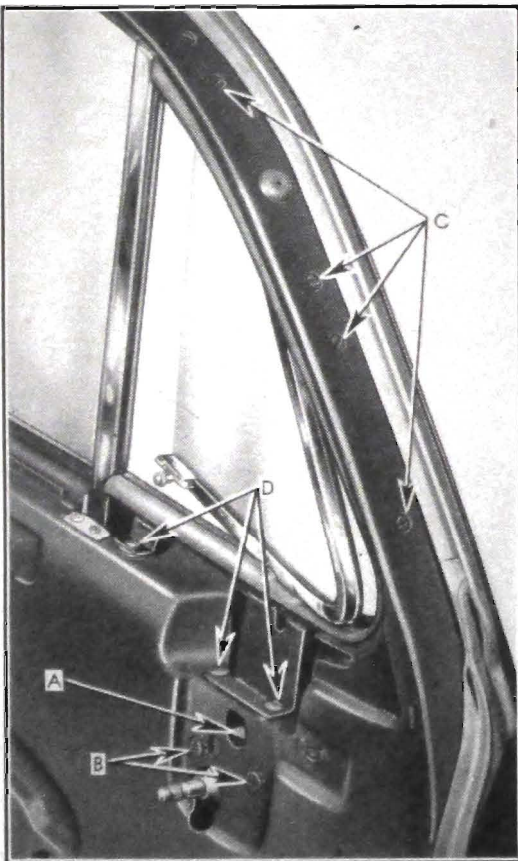

Fig. 1-69. Front Door Ventilator
3. Remove screw "A", Fig. 1-69, attaching ventilator T-shaft to gear box, also screws "B" holding gear box to inner panel. Remove the gear box through loading hole at bottom of door.